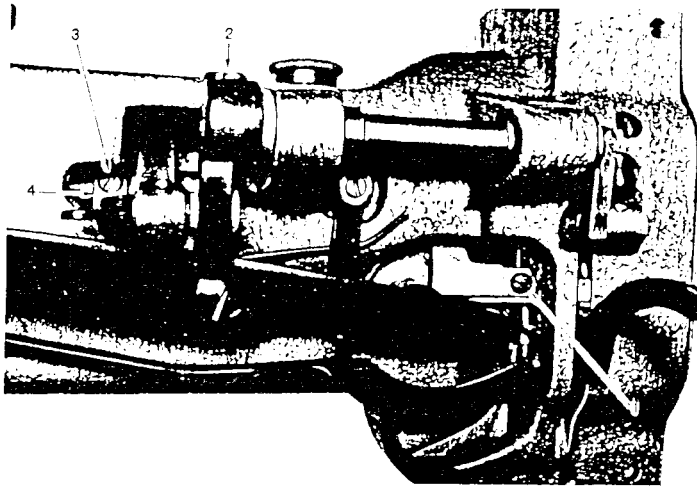

Fig. 27
Loosen the screw (1, Fig. 2) sufficiently, raise the presser bar lifter and loosen the set screw (1, Fig. 27).
A. Lower the presser bar lifter, holding the vibrating presser foot (5, Fig. 7), loosen the hexagon screw (2, Fig. 27) and move the presser foot up or down as may be required.
To adjust this, set the lift of the alternating presser feet so that they are equal, loosen the two screws (3, Fig. 27) and adjust the rotating position of the cam (4, Fig. 27) faster or slower as may be desired, and tighten the screw.